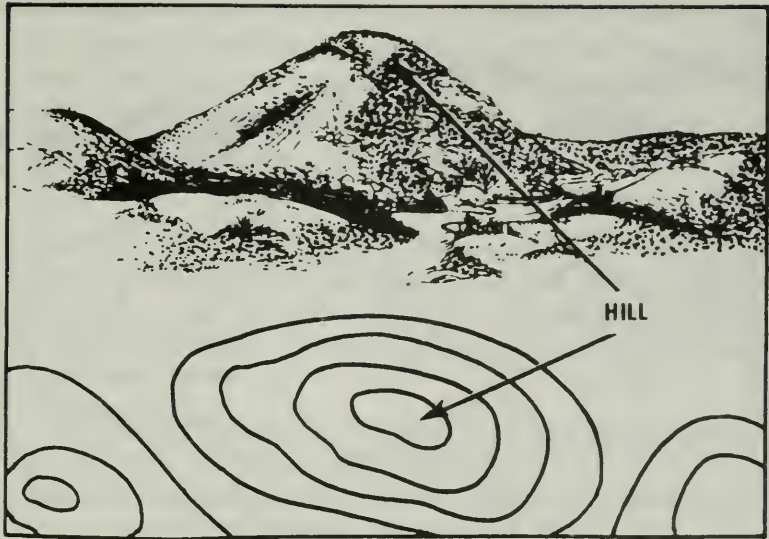

Figure 15. A Hill.
(1) Hill (Figure 15). A point or small area of high ground. When you are on a hilltop, the ground slopes down in all directions. A hill is depicted on a map by contour lines forming concentric circles.